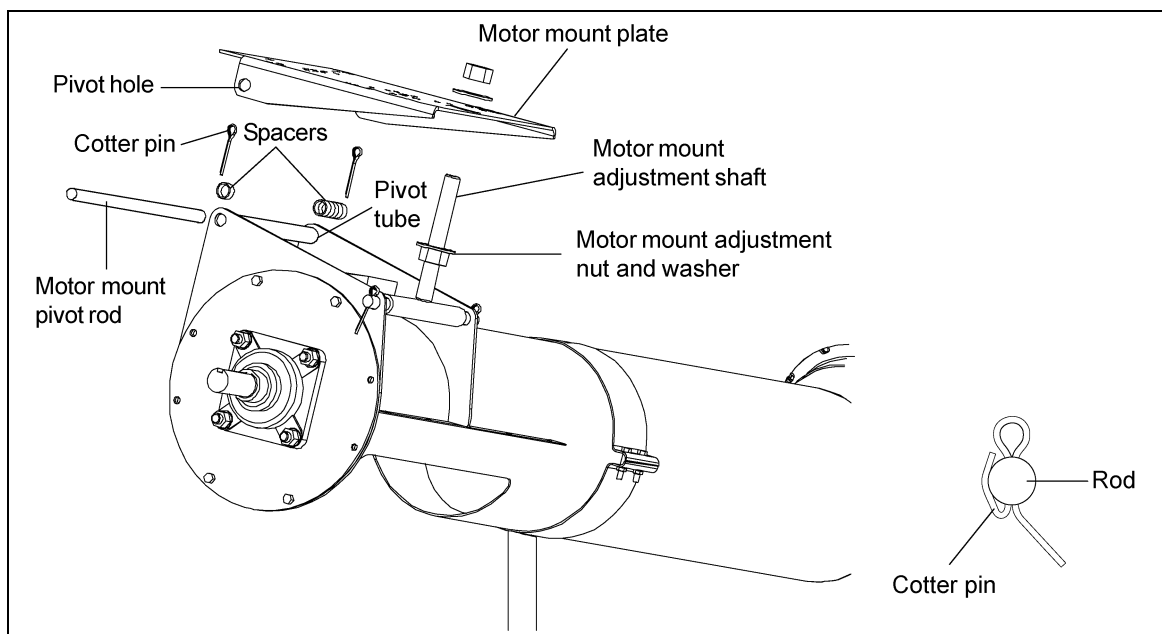

Figure 4F
2. Once the nut and washer are secure, slip the motor mount plate over the adjuster and align the pivot holes with the pivot tube. (See Figure 4F.)